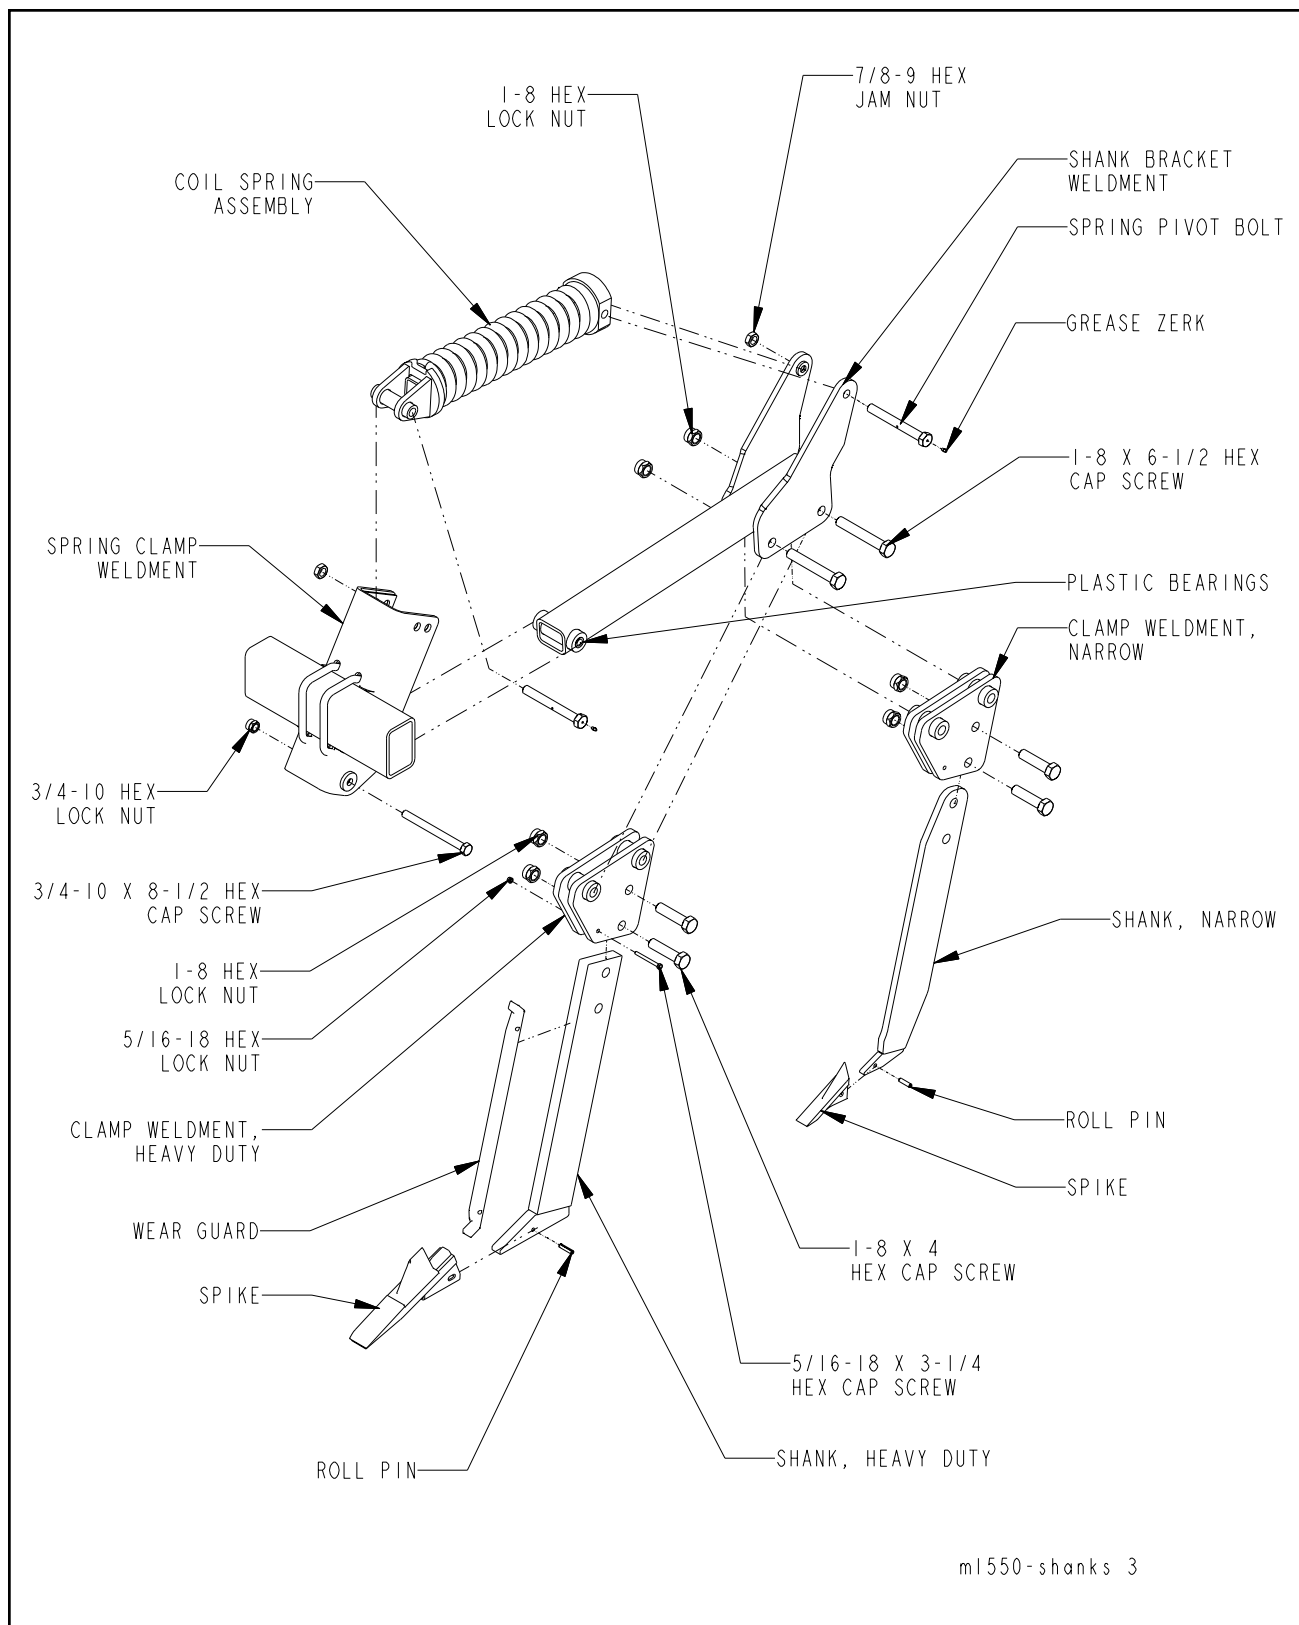

Figure 3-3 Straight Shank Assembly
- 3-6.6** If installing wear guards (used on straight heavy duty), install wearguard into clamp weldment and secure in place with 5/16-18 x 3-1/4 hex head cap screw and hex lock nut (**See Figure 3-3**). Install the spikes on the shanks using the roll pin provided.